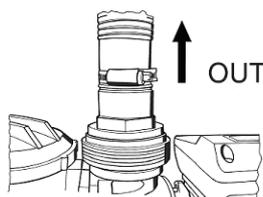
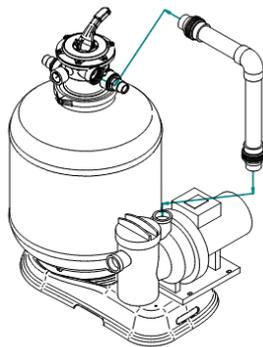

Fig. 27
Fig. 28
1. **Pressure connection** (Fig. 30, # 1): join the *filter pump* (outlet Fig. 27, OUT) to the *multifunction valve* (**PUMP**), using the corrugated pipes or the rigid connection (Fig. 28).